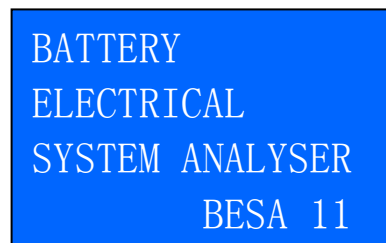

Figure 29
1. Make sure that the engine is switched OFF. Attach the clips onto the battery terminal posts and the analyser will power up and lights up the LCD display screen as shown (Fig.29).